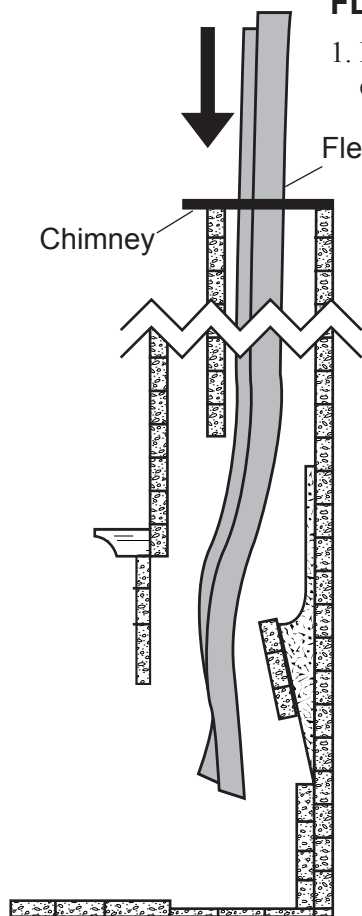

Figure 33a - Placing Flex Pipes into Chimney
3. Route flex vent through chimney from above (See Figure 33a). Leave an extra 3" (914mm) at the top.